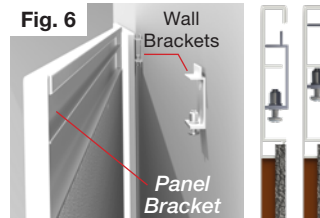
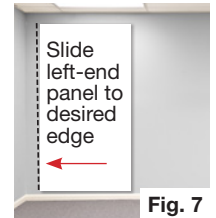

Fig. 6
Fig. 7
- **Install Left End Panel**—Raise the left end panel so that the panel bracket is just above the wall brackets installed in step 2b (Fig 6). Slide the panel to the desired left edge of the WhiteWall® assembly (Fig. 7).